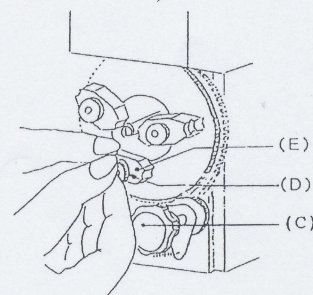
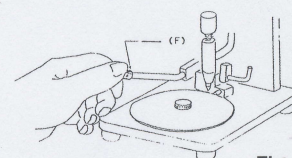

Fig. 2
Fig. 3
Insert the ring (N) into the grooves of the three self-centring fibre jaws (E) and tighten by turning the knob (C) clockwise to rotate the chuck disk (H) as shown in Fig. 2. The jaws have narrow and wide grooves for different sizes of rings. Reverse the jaws when necessary by loosening the locking nut (D) as illustrated in Fig. 3. When engraving the inside of a ring with a stone, place the stone between the two jaws with the largest spacing.